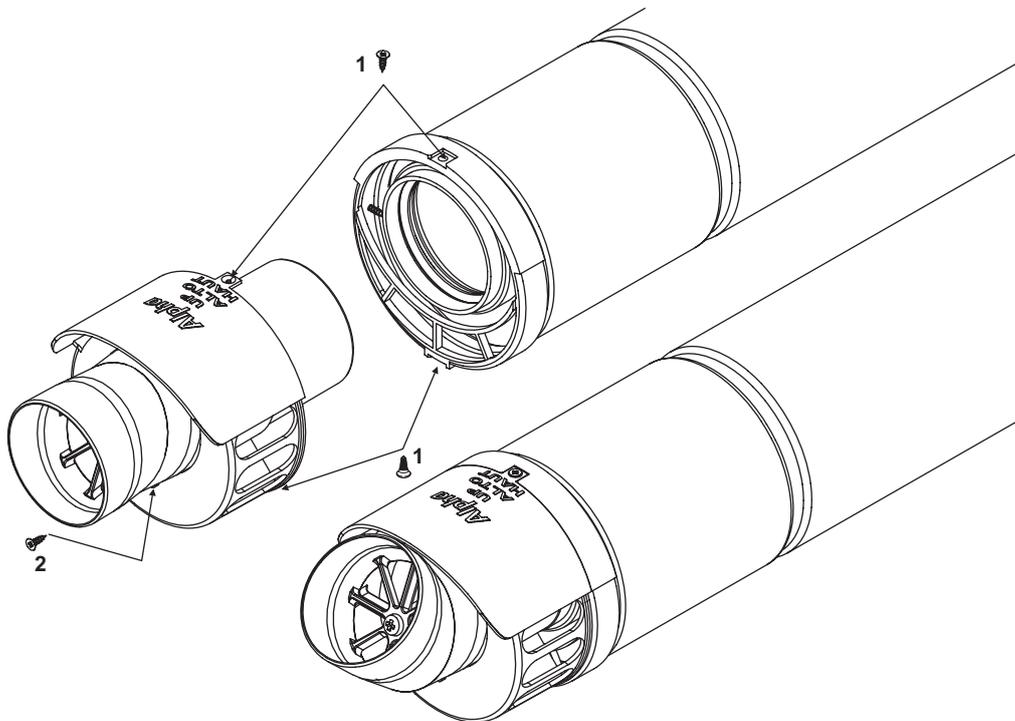

Fig. 21
- i. Remove the screws (1 in Fig. 21) securing the terminal and remove the terminal by pulling it from the flue assembly. Remove the screw (2 in Fig. 21) securing the terminal end section and remove the end section from the terminal.
- iii. Connect to the 93° bend the required Plume Management components as detailed and refer to Fig. 21.